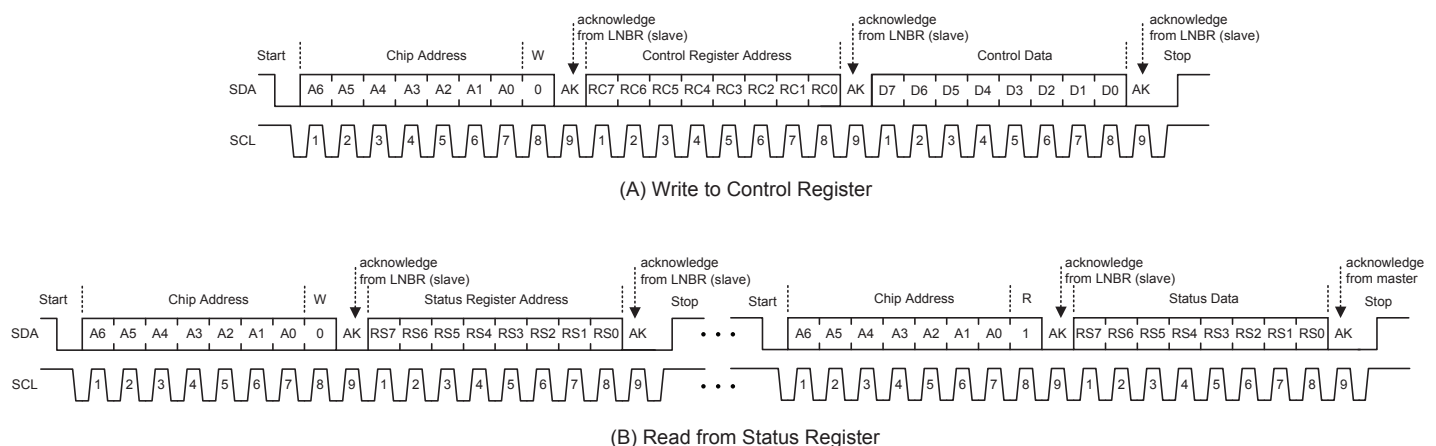

Figure 8. I2C™ Interface Read and Write Sequences. (A) for the I2C™ Write cycle and (B) for the I2C™ Read cycle
**AK Bit During a Write Sequence.** When the master sends control data (writes) to the A8303 and A8303-1 there are three instances where AK bits are toggled by the A8303 and A8303-1. First, the A8303 and A8303-1 use the AK bit to indicate reception of a valid seven-bit chip address plus a read/write bit (R/W=0 for write). Second, the A8303 and A8303-1 use the AK bit to indicate reception of a valid eight-bit Control register address. Third, the A8303 and A8303-1 use the AK bit to indicate reception of eight bits of control data. This protocol is shown in figure 8(A).
**AK Bit During a Read Sequence.** When the master reads status data from the A8303 and A8303-1 there are four instances where AK bits are sent—three sent by the A8303 and A8303-1 and one sent by the master. First, the A8303 and A8303-1 use the AK bit to indicate reception of a valid seven-bit chip address plus a read/write bit (R/W=0 for write). Second, the A8303 and A8303-1 use the AK bit to indicate reception of a valid eight-bit status register address. Third, the A8303 and A8303-1 use the AK bit to indicate reception of a valid seven-bit chip address plus a read/write bit (R/W=1 for read). Finally, the master uses the AK bit to indicate receiving eight bits of status data from the A8303 and A8303-1. This protocol is shown in figure 8(B).
**I2C™ Start and Stop Conditions.** The I2C™ Start condition is defined by a negative edge on the SDA line while SCL is high. Conversely, the Stop condition is defined by a positive edge on the SDA line while SCL is high. The Start and Stop conditions are shown in figure 8. It is possible for the Start or Stop condition to occur at any time during a data transfer. If either a Start or Stop condition is encountered during a data transfer, the A8303 and A8303-1 will respond by resetting the data transfer sequence.
**I2C™ Write Cycle Description.** Writing to the A8303 and A8303-1 Control register requires transmission of a total of 27 bits—three 8-bit bytes of data plus an Acknowledge bit after each byte. Writing to the A8303 and A8303-1 Control register is shown in figure 8(A). Writing to the A8303 and A8303-1 Control register requires a chip address with R/W=0, a Control register address, and the control data, as follows:
**I2C™ Read Cycle Description.** Reading from the A8303 and A8303-1 Status register requires transmission of a total of 36 bits—four 8-bit bytes of data plus an Acknowledge bit after each byte. Reading the A8303 and A8303-1 Status register requires a chip address with R/W=0, a Status register address, an I2C™ Stop condition, an I2C™ Start condition, a “repeated” chip address with R/W=1, and finally the status data from the A8303 and A8303-1. Reading from the A8303 and A8303-1 Status register is shown in figure 8(B).